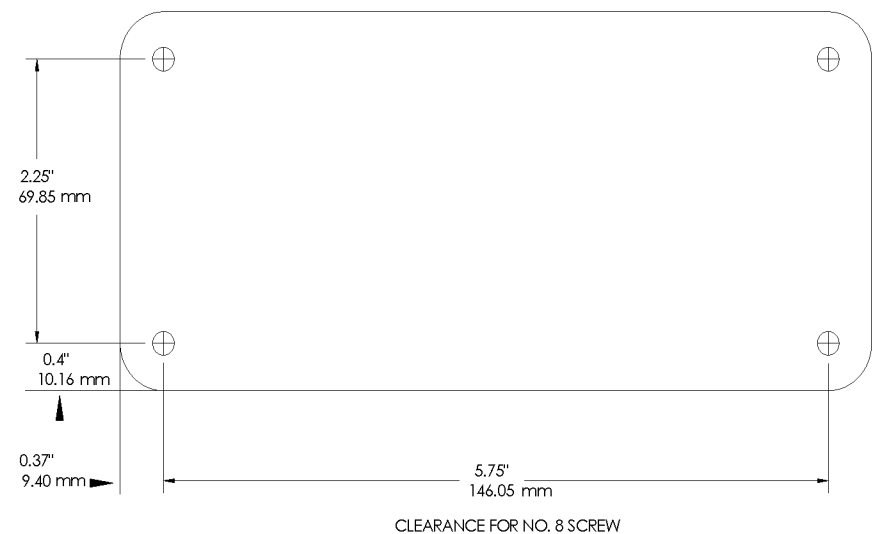

FIGURE 1
3. **Mounting the ACP Hardwire Series:** See Figure 1.